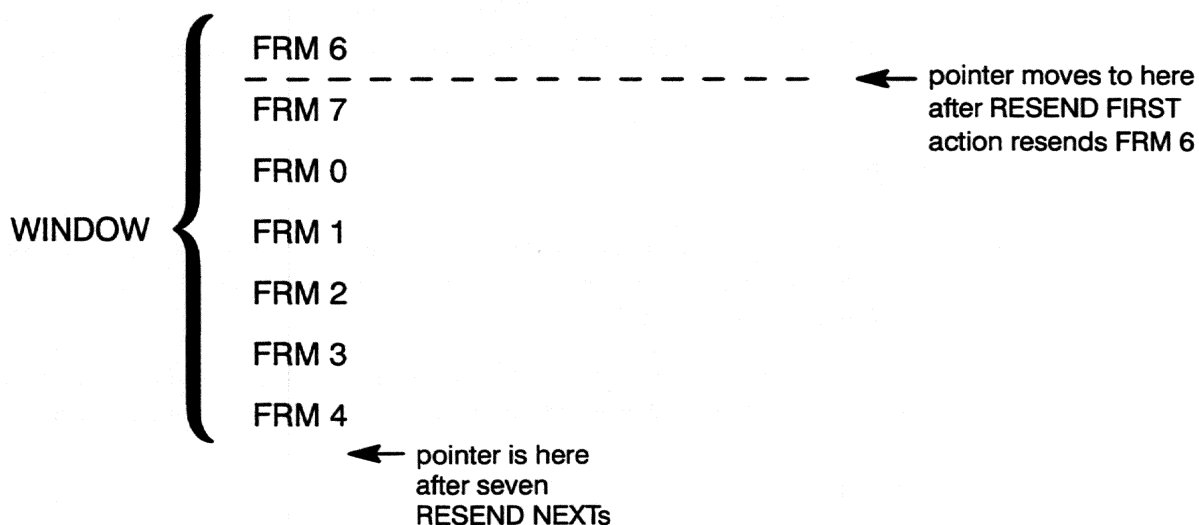

Figure 39-28 *RESEND FIRST* resets the pointer, allowing you to resend the entire window repeatedly.
1. *Resend first/next.* RESEND FIRST means that the resend—pointer is reset to the beginning of the window, the first frame in the window is resent, and the pointer is advanced to the second position in the window. The effect of a RESEND FIRST action is illustrated in Figure 39-28.